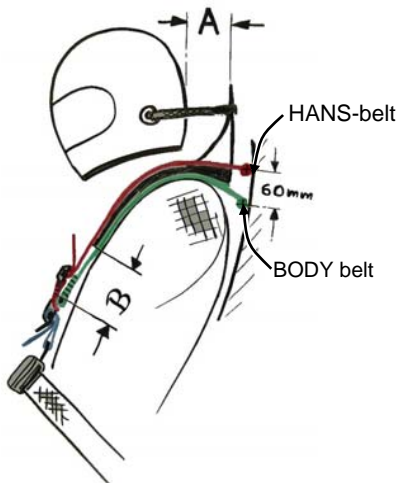

Figure 1
- The total of both numbers (**A** plus **B** in Figure 1) has to be 100 mm.
- Driver’s head/helmet must be pulled forward until the tethers are straight. Measure the distance between the Head and Neck Support collar and the helmet = measure **A** in Figure 1.
- Subtract **A** from 100 mm = measure **B** in Figure 1. This is the minimum distance which must be achieved between the Head and Neck Support yoke tips and the belt merge.